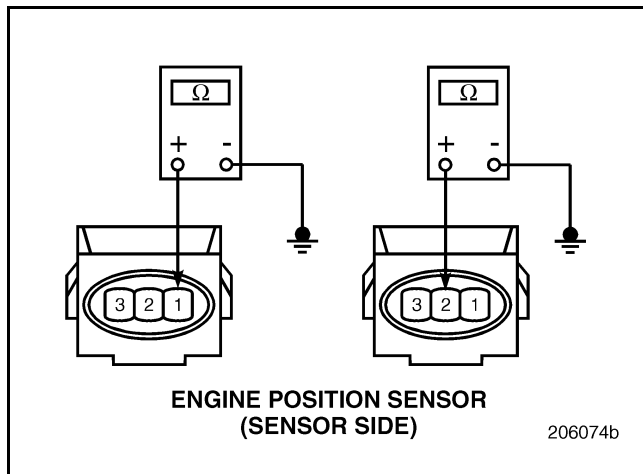

Figure 406
2. Disconnect the Engine Position (EP) Sensor connector.
3. Measure the resistance between sensor pin 1 and a good ground and between sensor pin 2 and a good ground (see Figure 406).